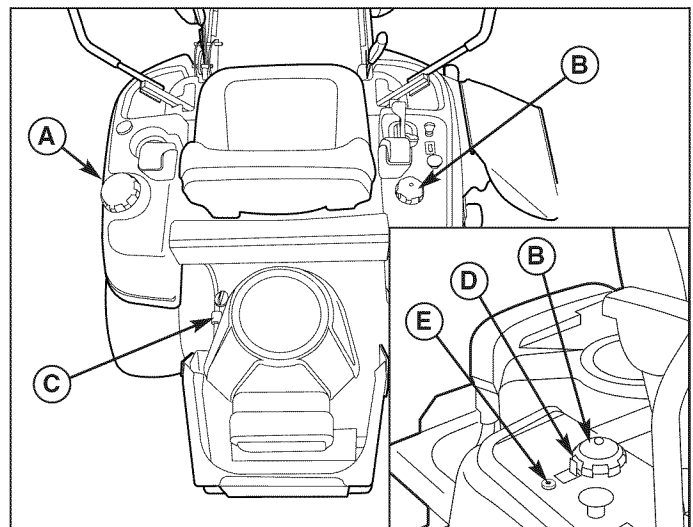

Figure 17. Maintenance
1. Remove the fuel cap (see A, Figure 17).
4. Using a pliers, open and slide hose clamps from fuel filter (C, Figure 17).
2. Before removing the reservoir cap, make sure the area around the reservoir cap and fill neck of the reservoir is free of dust, dirt, or other debris. Loosen the locking capscrew (E, Figure 17) securing the locking tab (D), slide the lock tab back, and remove the cap (B).